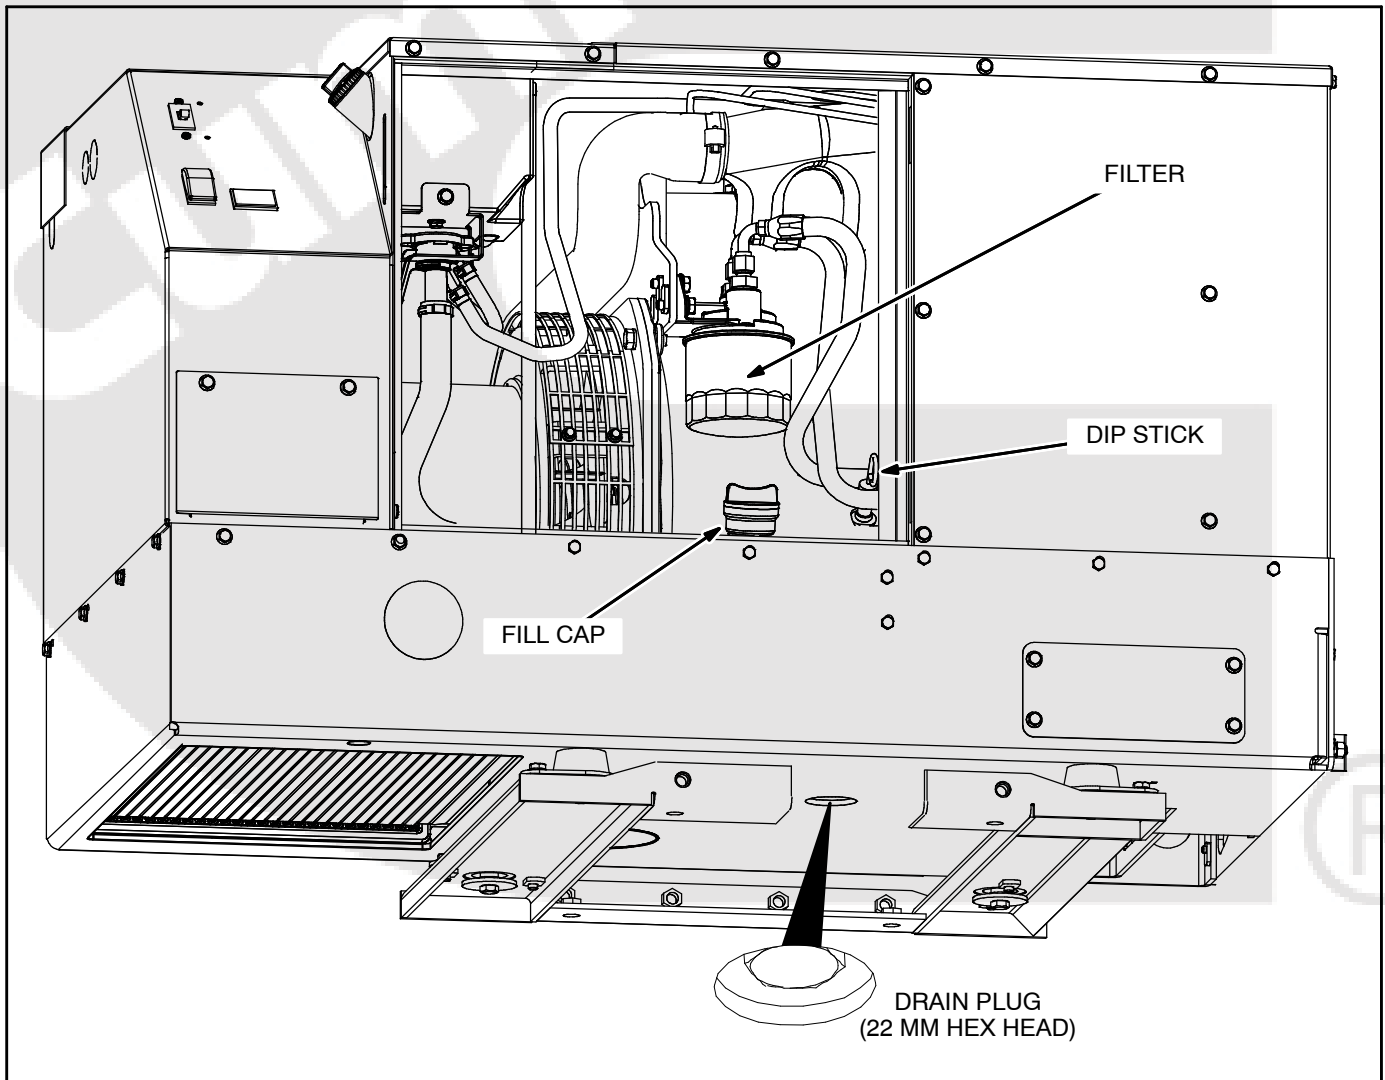

FIGURE 3-1. ENGINE OIL MAINTENANCE
Check engine oil level (Figure 3-1).
2. Pull out the oil dip stick, wipe it clean, reinsert it and pull it out again to check the oil level (Figure 3-1).
1. Place a pan under the oil drain plug (Figure 3-1), run the genset until warm and shut it off.
5. Refill with 5.9 quarts (5.6 liters) of oil, check oil level (Figure 3-1) and secure the front access door.